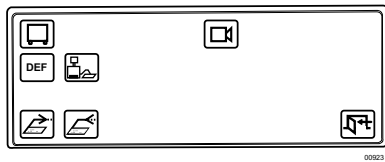

Figure 31. Database Menu
1. Select from Define Menu 2 to bring up the Database Menu. See Figure 31.